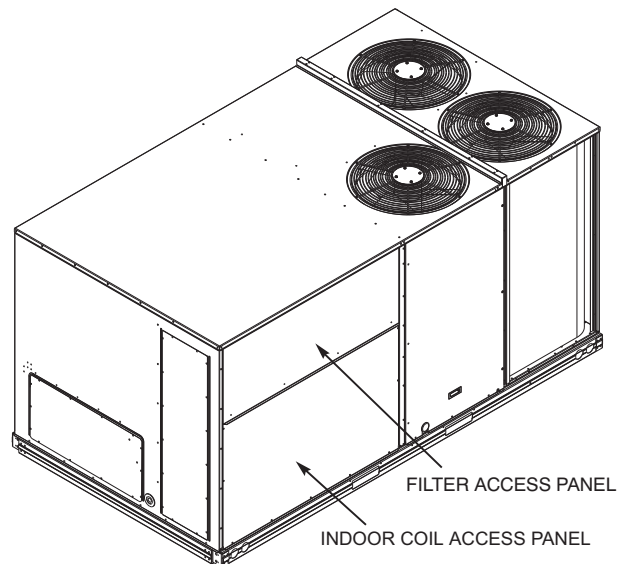

Fig. 12 — Typical Access Panel Locations
2. To gain access to the hood, remove the filter access panel. (See Fig. 12.)